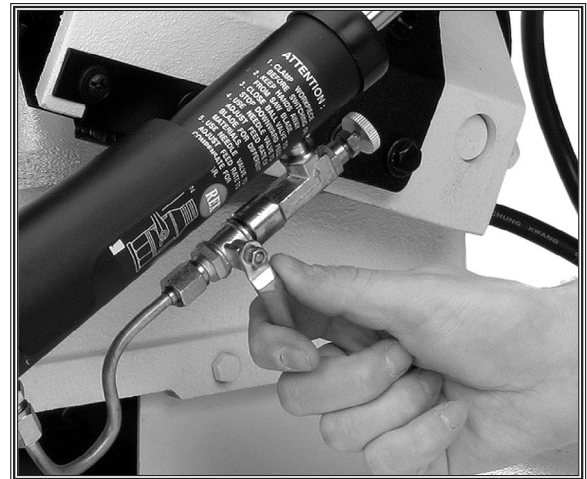

Figure 37. Stopping the feed cylinder.
2. Raise the headstock to the vertical position and close the feed valve to lock the headstock in place (see **Figure 37**).